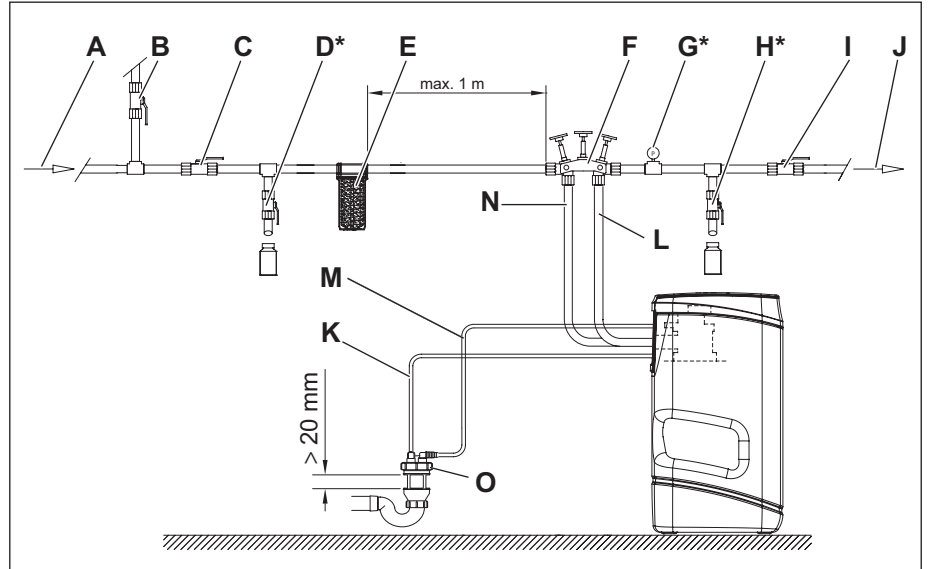

Fig. 3: Installation plan
1. Isolate the upstream shut-off valve with check valve (Fig. 3/C) and shut-off valve (Fig. 3/I).
2. Open test valves (Fig. 3/D and Fig. 3/H).
The pressure gauge (Fig. 3/G) must indicate a pressure of 0 bar.
1. Install the drinking water filter (Fig. 3/E) at a distance of no more than 1 m from the bypass mixing valve on the inlet side of the water softener.
2. If necessary, install the pressure reducing valve upstream of the bypass mixing valve (Fig. 3/F) and the drinking water filter (Fig. 3/E).